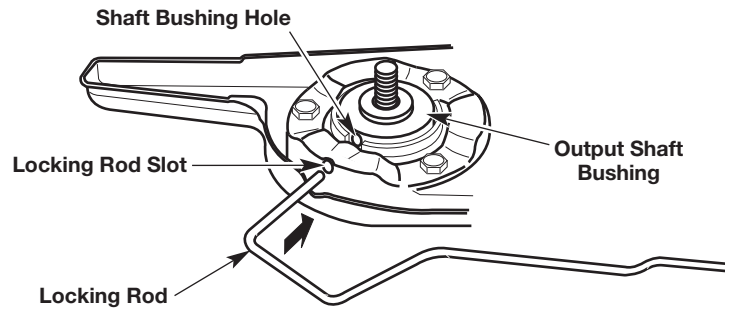
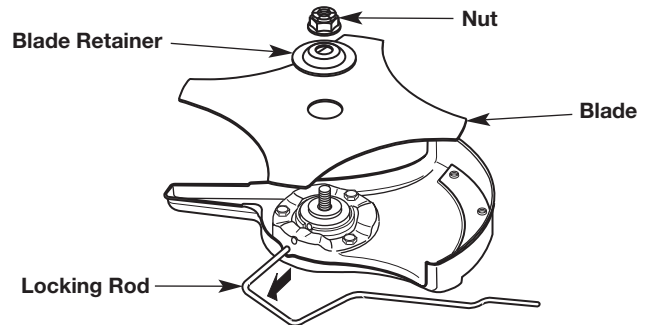
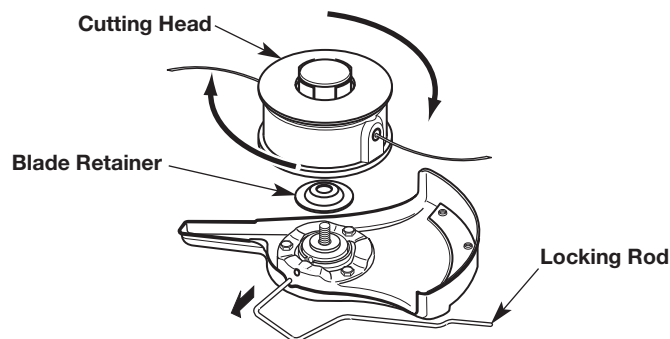

Fig. 9
Fig. 11
Fig. 14
1. Rotate the blade (Fig. 11) until the shaft bushing hole aligns with the locking rod slot (Fig. 9).
2. Insert the locking rod through the locking rod slot and into the shaft bushing hole (Fig. 9).
5. Remove the locking rod (Fig. 11).
6. Remove the blade retainer and blade (Fig. 11).
1. Rotate the output shaft bushing until the shaft bushing hole aligns with the locking rod slot (Fig. 9).
2. Rotate the cutting head (Fig. 14) until the shaft bushing hole aligns with the locking rod slot (Fig. 9).
3. Insert the locking rod through the locking rod slot and into the shaft bushing hole (Fig. 9).
5. While holding the locking rod in place, unscrew the cutting head by turning it clockwise (Fig. 14).
6. Remove the locking rod (Fig. 14).
7. Remove the blade retainer (Fig. 14).